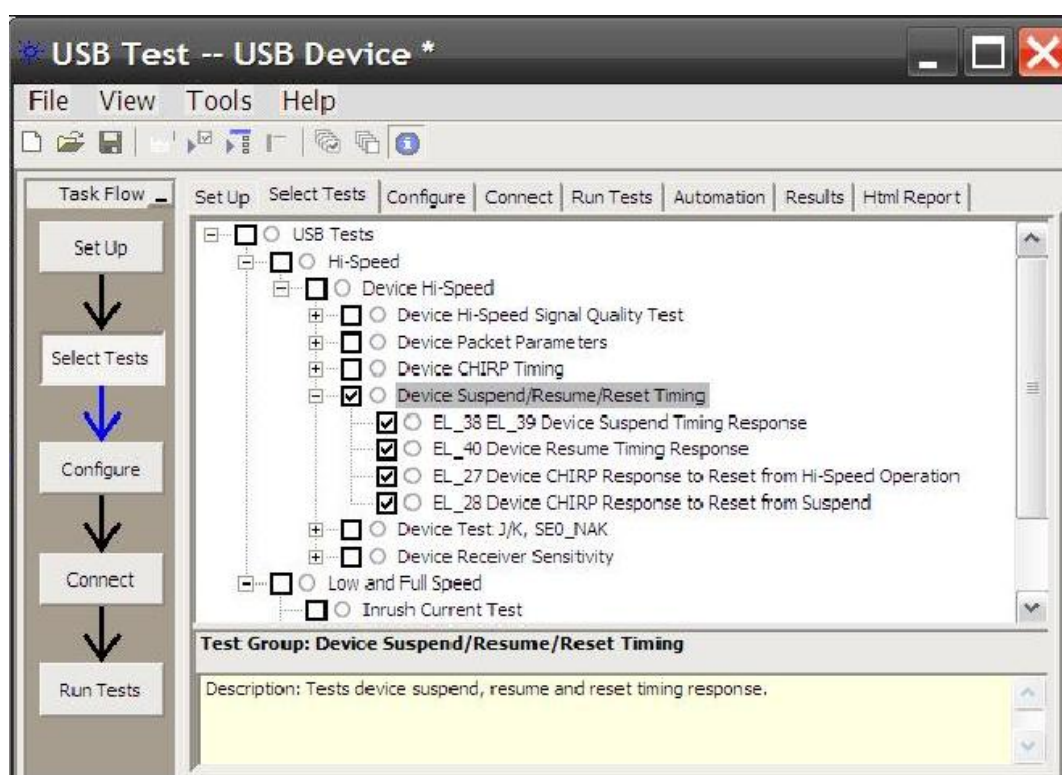

Figure 43. Device Suspend/Reset/Resume Timing Test
1. Select the test items in the USB Automated Test software on the oscilloscope as shown in Figure 43, and make sure you set the test type configuration option to hi-speed near end before running the test.